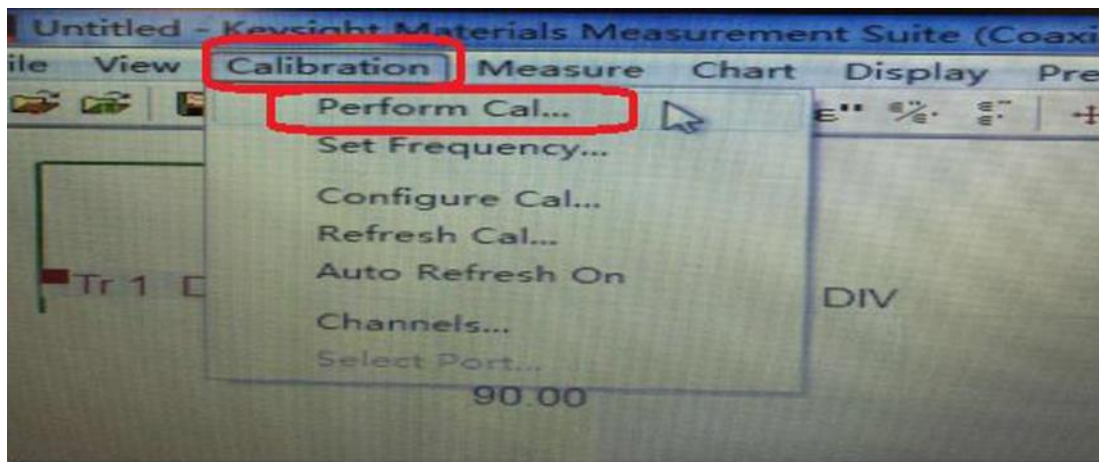

Figure 11. Calibration
- (4) After set up, select **【Calibration】** -> **【Perform Calibration】** as shown in Figure 11. Then calibrate with air, short-circuited devices, and deionized water according to the prompts given by the software.